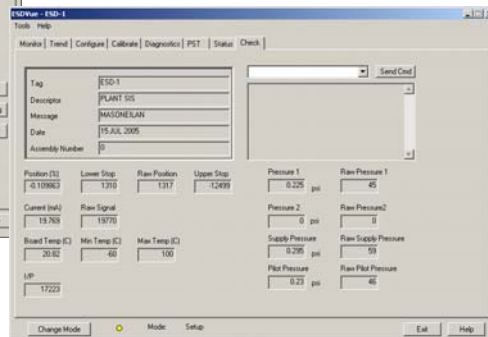

Figure 49 ValVue ESD for Checking Magnet Position
4. Select the installed ESD PST controller from the list of *Connected Devices* as shown in Figure 49 and click **Connect**.
6. Read Raw Position Data on the Check screen as shown in Figure 49.